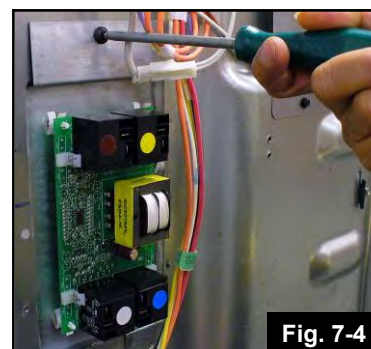

Fig. 7-4
4. Secure the bottom edge of the adapter plate and use the screw provided to hold the top. (Fig.7-4)